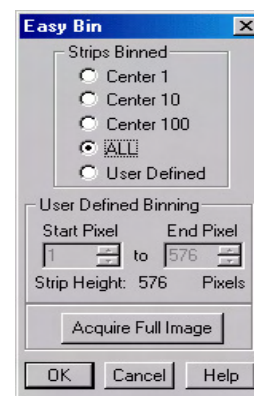
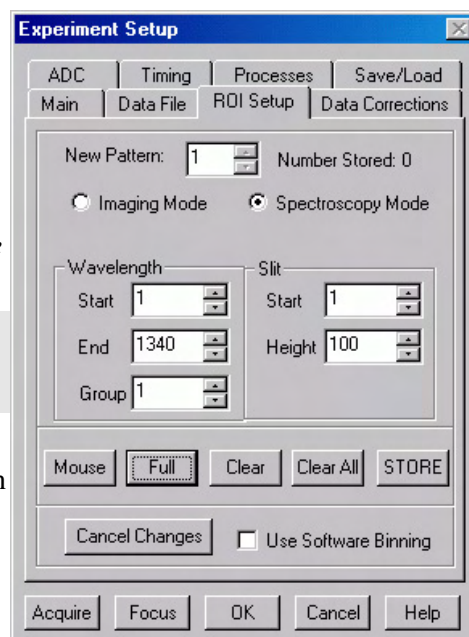

Figure 137. Easy Bin dialog box
Figure 138. ROI Setup tab page (Spectroscopy Mode)
A Region of Interest (ROI) may be the entire CCD array or it may be a rectangular subregion of the array. For data acquisition, the definition of such a region is done either from the Easy Bin dialog box (Figure 137, page 144) accessed from the Acquisition menu or from the ROI Setup tab page (Figure 138, page 145), accessible after selecting Experiment Setup from the Acquisition menu. Easy Bin is a simple way of defining a single full chip width ROI. ROI Setup allows you to create multiple ROIs with greater flexibility in ROI location and width.
2. On the **Easy Bin** dialog box (Figure 137), click on the appropriate radio button:
1. Open the **Experiment Setup** dialog and click on the ROI Setup tab to open the **ROI Setup** tab page (Figure 138).